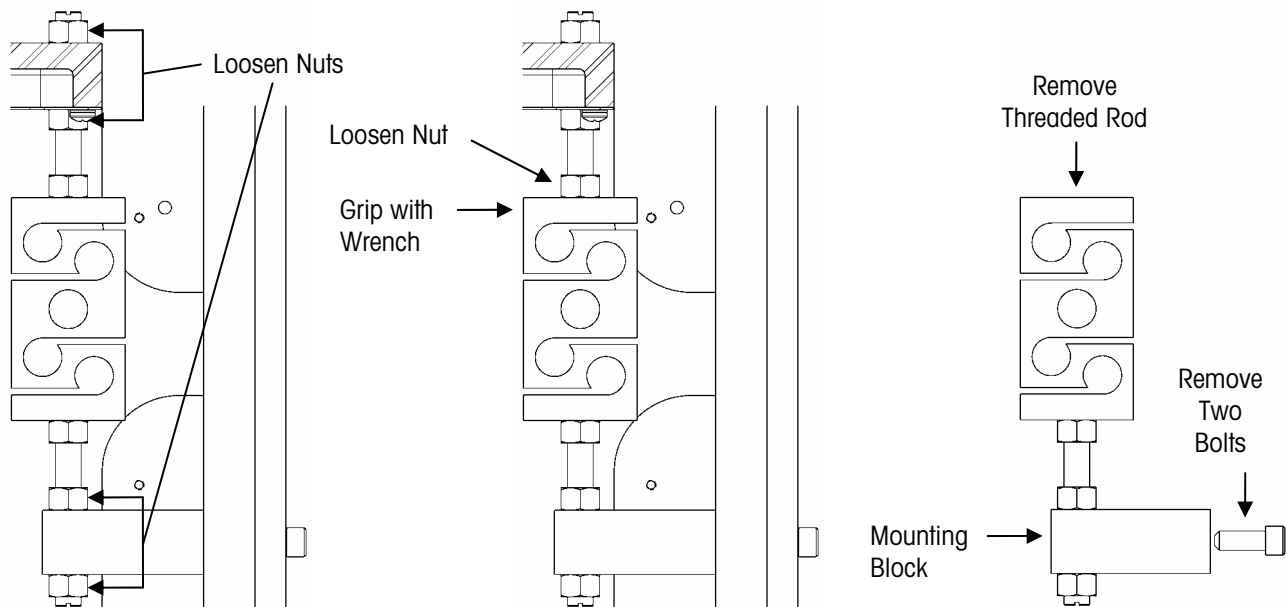

Figure 6-12: Drag Load Cell Assembly
16. Loosen the nuts on the threaded rods that anchor the load cell to the upper and lower carriage mounts (see Figure 6-12). That will allow you to rotate the load cell enough to grip the top part of the load cell with a 1.25-inch open-end wrench (or clamp). While gripping the load cell with the wrench, loosen the jam nut that is tightened against the top of the load cell.
1. Screw the threaded rod that is connected to the lower mounting block into the hole at the bottom of the new load cell (see Figure 6-12). Make sure that the end of the threaded rod does not extend into the gap in the load cell.
3. Bolt the lower mounting block to the carriage and tighten the jam nuts (see Figure 6-12). Grip the bottom part of the load cell with a wrench when tightening the jam nut against it. Be careful not to damage the load cell by twisting it.